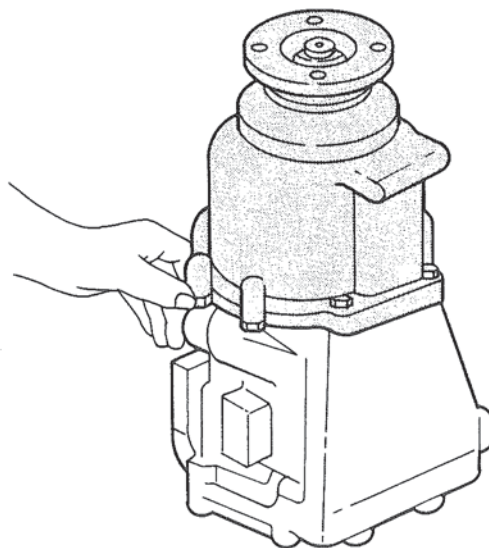
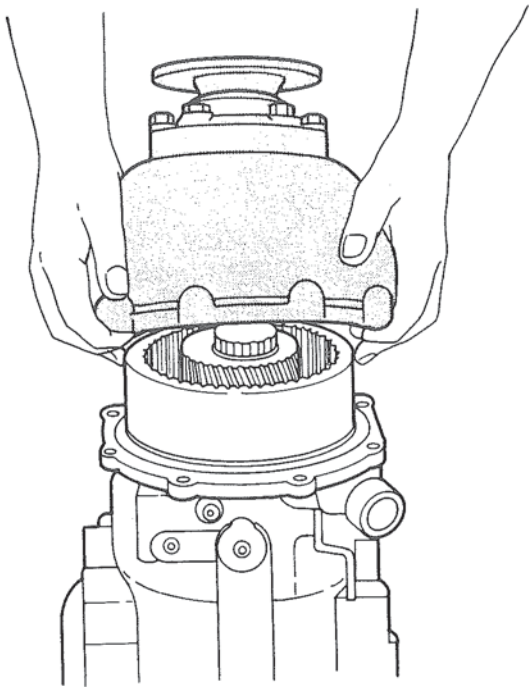

Figure 3. Removing Reduction Unit Bolts.
Figure 4. Removing Reduction Unit.
2. Remove the bolts and lockwashers, fastening the reduction housing to forward and reversing transmission case as shown in Figure 3, then remove the reduction housing and pinion gear and main shaft assembly from the forward and reverse transmission case. Figure 4.